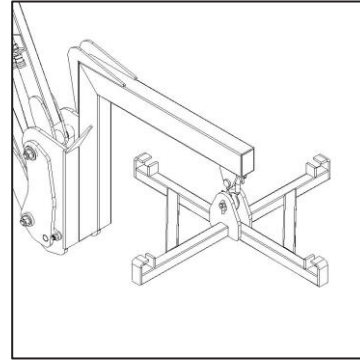

Fig. 4
- The F1000 Uniloader® model may also be equipped with a hook attachment for general lifting tasks, plus a cruciform spreader for the handling of agricultural bulk bags (Fig. 4).